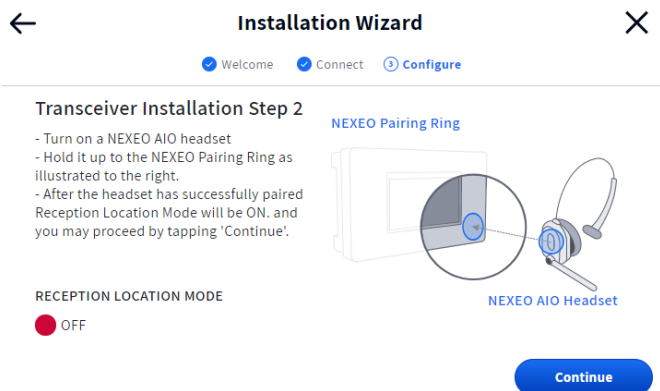
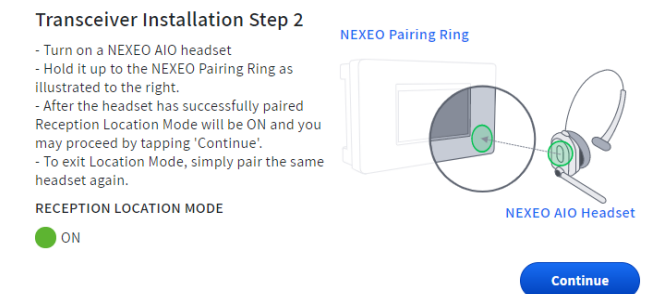
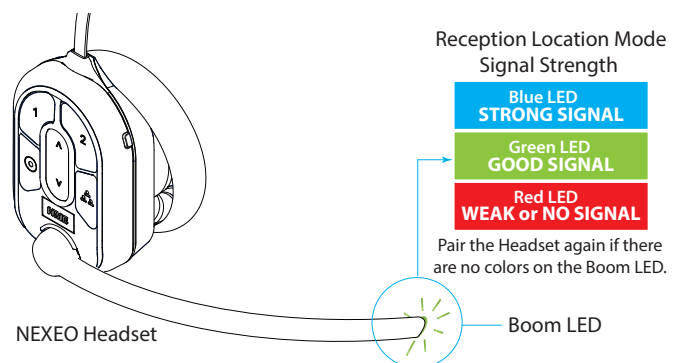

Fig. 2.7
Fig. 2.8
Fig. 2.9
- Finding a good location for the remote transceiver is critical (see Fig. 2.8, and 2.9). Also read about the “Remote Transceiver (RT7000)” on page 14 under Component Notes and review the Critical Steps in these instructions.
10. **Critical Step:** At the Configure stage of the Installation Wizard, the Transceiver Installation Step 2 screen prompts you to use a paired headset switched into Reception Location Mode (Fig. 2.7). When you pair a headset at this step, the Reception Location Mode indicator turns from ● OFF to ● ON (Fig. 2.8). Tap "Continue" to move to Transceiver Installation Step 3. You will need to walk all areas of the store where the headset will be used to ensure a good signal. The Boom LED at the tip of the Headset microphone flashes different colors to indicate areas with strong or weak reception (The NEXEO screen displays this color-coded range which is also shown here in Fig. 2.9). Depending on the results, you may have to reposition the Remote Transceiver before finding the optimal location.